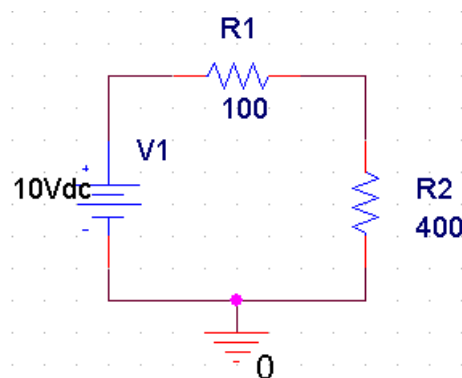

Figure 12. Final circuit of potential divider, fully connected, with the correct values.
Change the values of the resistances and voltage to those shown in figure 12 on the following page. I'll explain how to wire the components next.
Your circuit should now resemble figure 12 on the next page. Here are some tips for wiring.
- Capture adds blobs to junctions where wires are joined. You can see one for the ground connection in figure 12. There should not be blobs anywhere else – on the ends of components, for instance. If there are, remove them with the Junction tool from the toolbar or Place > Junction.